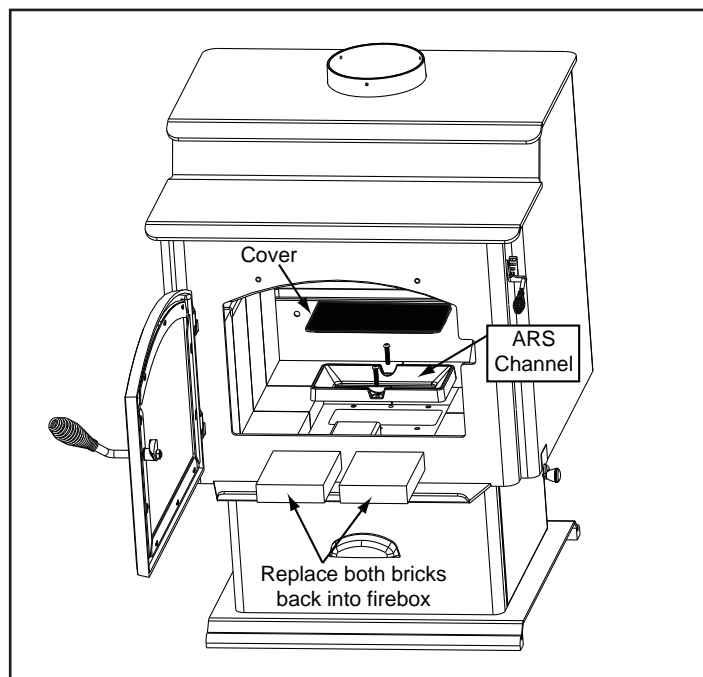

Figure 23.3
1. Re-install the ARS channel that was removed in Step 3 on page one and secure with 2 bolts previously removed. Set the cover into the ARS channel. Replace the 2 front cut bricks. **Figure 23.3.**